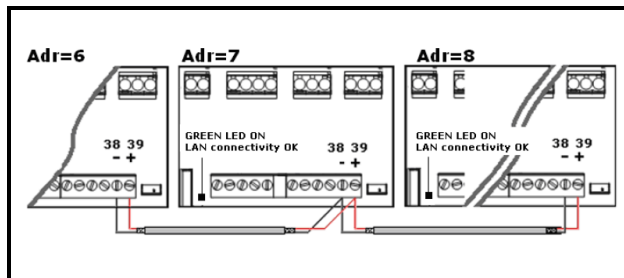

Figure 6-4 - LAN Connection
1. Connect a shielded cable between terminals 38 [-] and 39 [+] for a maximum of eight (8) sections.
2. The **Adr** parameter is the number that identifies each electronic board. *Address duplication is not permitted*; in this case, synchronized defrost and the communication with the monitoring system are not guaranteed (the **Adr** is also the MODBUS address). See **Figure 6-4** for an example of a properly configured LAN connection: